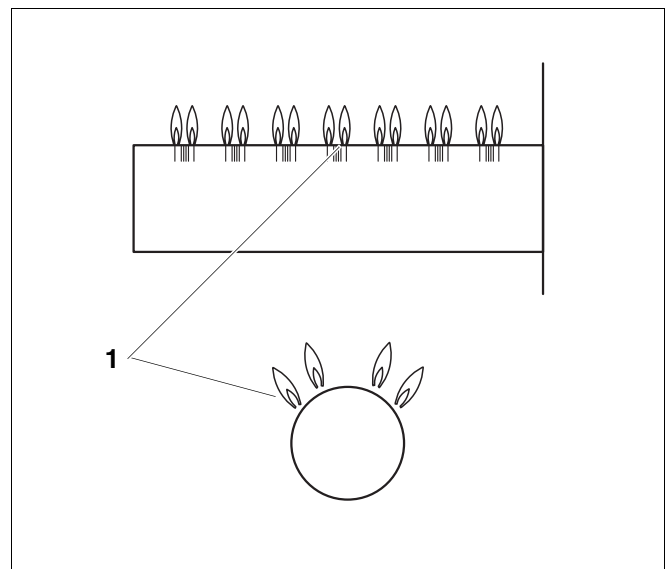

Fig. 12 Main burner
9. Test the flame rod by closing the gas shut-off. The main burner flame (→ Fig. 12) and the ignition flame are extinguished. After no more than six (6) seconds the main gas solenoid valve on the gas valve must close with an audible noise. If the gas valve does not operate correctly, turn ON/OFF knob on the gas valve clockwise to the OFF position immediately. Close the main gas shut-off and disconnect the heating system from the main power source and contact the customer service technician or the gas company.
10. After 90 seconds the igniter stops generating sparks for five (5) seconds.